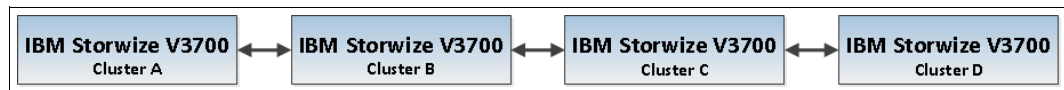

Figure 10-72 Daisy chain partnership topology for IBM Storwize V3700
- ▶ Daisy-chain topology, as shown in Figure 10-72.